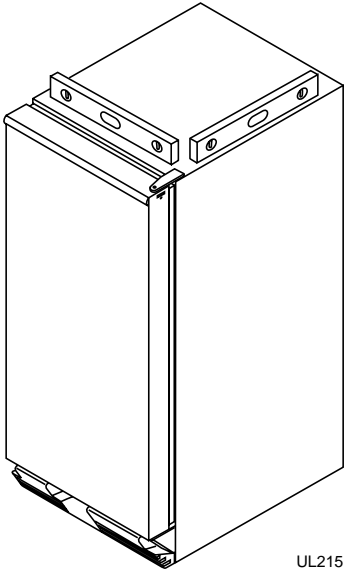

Figure 10
1. Use a level to check the levelness of the ice maker from front to back and from side to side (see Figure 10).